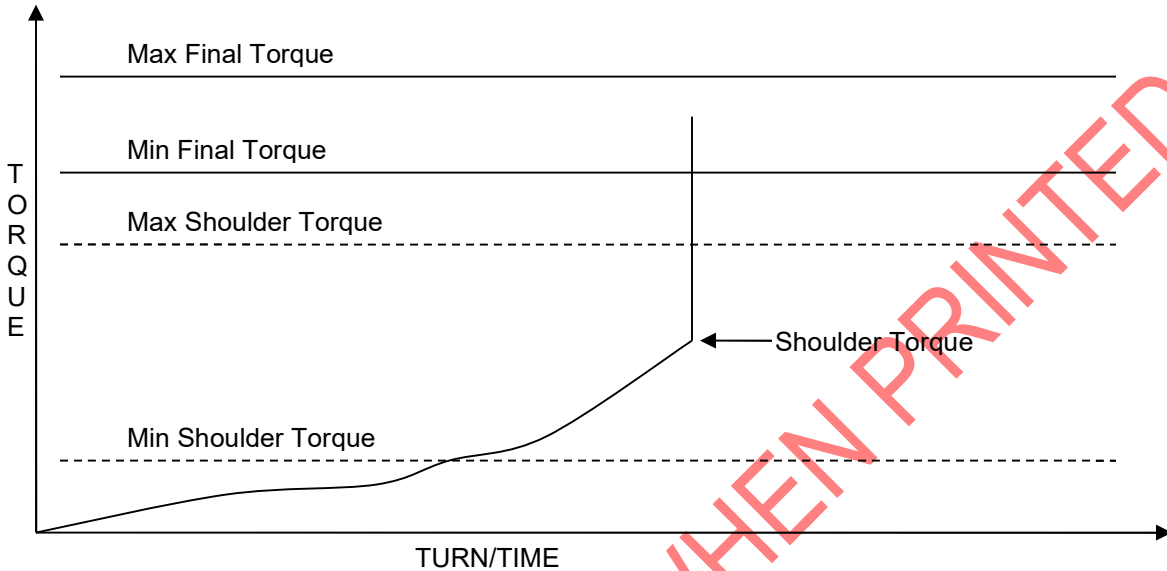

Figure 1: Typical Acceptable Make-up Signature
8.1.1. An acceptable make-up signature is shown in figure 1. A distinct shoulder shall be present and shall fall in between the minimum and maximum shoulder torque values. The final torque shall fall between the minimum final torque and the maximum final torque values.
8.1.2. A rejected make-up signature is defined as an irregular appearing signature that is significantly different than the acceptable make-up signature (figure 1) and the signatures from the rest of the order. Some examples of reject signatures are: